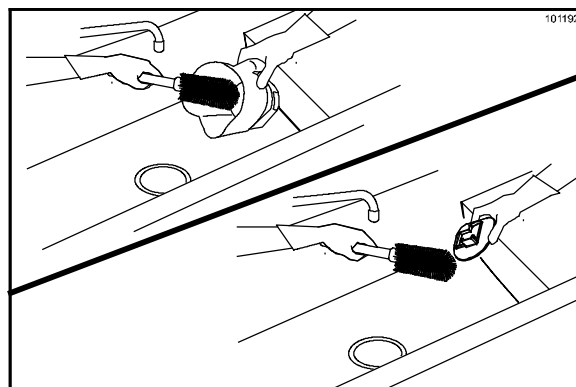

Figure 19
3. Wash the parts in a hot, approved cleaning solution. (See Figure 19.)